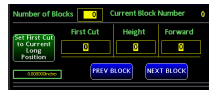

Figure 8.3: Block Details Entry Fields
Blocks are the actual stone blocks as laid out on the cutting floor by the Operator. The details about the block that are used in the program are shown in Figure 8.3. The **Number of Blocks** is set by the Operator according to the actual block count on the cutting bed. The **Current Block Number** indicates to the Operator which block they are actively programming, it is not settable. The PushButton **Set First Cut to Current Long Position** will set the First Cut for the active block to the actual Long Axis Position (displayed below the button). Of course, the Operator could just enter a desired **First Cut** in the entry field provided. The **Block Height** must be entered by the Operator, this determines where the depth of the first cut for the block ends up as a result of the equation $Block\ Height - Cut\ Depth$. The **Forward Position** for Cross Travel is entered by the Operator, to tell the saw when the blade is out of rock. Since the Cross Travel will drift a fair amount when stopping, this should be treated as the minimum distance desired to ensure the blade has left the rock safely. The **PREV BLOCK** and **NEXT BLOCK** buttons are used to scroll through the blocks to be programmed. They are only active if there is a next or previous block to view. If a block is desired to be cut with only a *First Cut* and no slabs, then the Operator would need to ensure that there is a zero (0) in the **Number of Slabs** entry field of the Slab Details (Section 8.2.3).